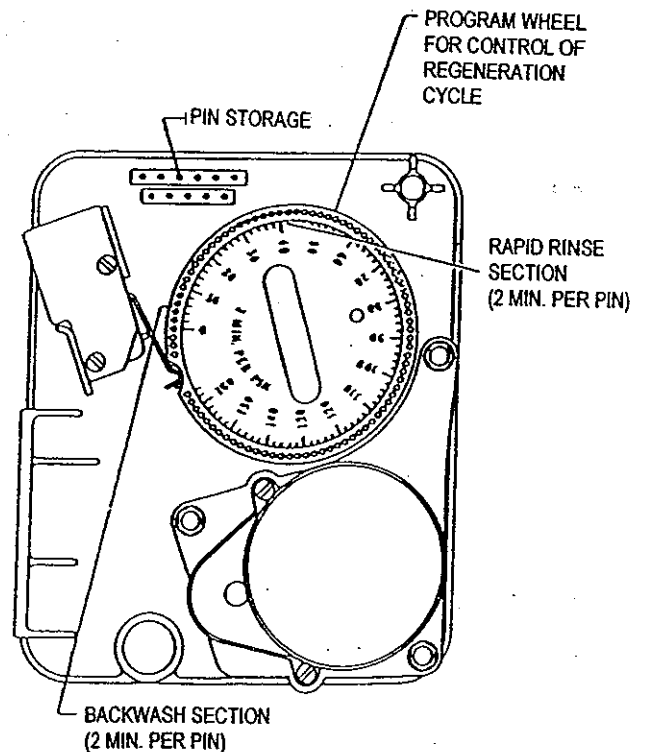

Figure 2
Each control valve position can be manually selected by rotating the **manual regeneration knob** clockwise until the first microswitch located on rear of timer door is aligned with each cycle position on the program wheel. (See Figure 2.)
1. Manually index manual regeneration knob to **BACKWASH** position and allow water to run to drain 3 - 4 minutes. (See Figure 2.)
2. Manually index manual regeneration knob to **RAPID RINSE** position and allow water to run to drain 3 - 4 minutes. (See Figure 2.)
3. Manually index manual regeneration knob to **SERVICE** position. (See Figure 2.)
1. Manually index manual regeneration knob to **RAPID RINSE** position and allow water to run to drain until $KMNO_4$ is evident in the effluent (dark purple color). (See Figure 2.)
2. Manually index manual regeneration knob to **SERVICE** position. (See Figure 2.)
3. Let filter soak for one (1) hour.
4. Manually index manual regeneration knob to **BACKWASH** position and allow filter to complete entire cycle (backwash and rapid rinse). (See Figure 2.)